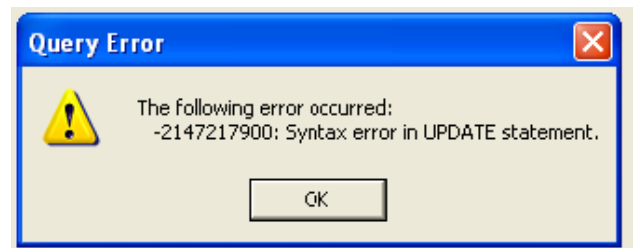

Figure 44: Query error message
- A “Query Error” message appears if the operation is unsuccessful (see example in Figure 44).